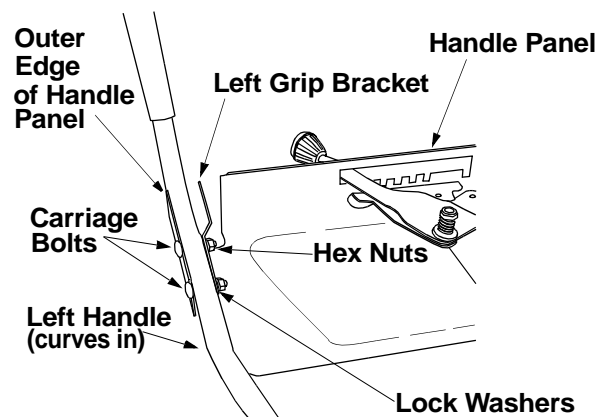

Figure 4
1. Attach left handle and left grip bracket to handle panel with two carriage bolts, lock washers and hex nuts. (Be sure the bend in the grip bracket is towards the center of the handle panel. (See Figure 4.) Do not tighten at this time.